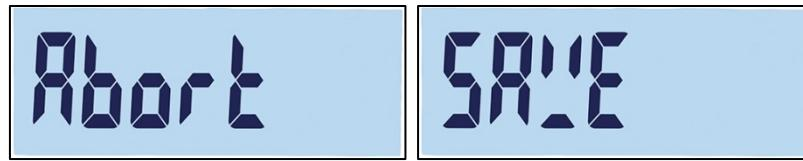

Figure 2-3: Prompts When Exiting Setup
1. Press the **Power** key, or left **F1** when in the root of the menu tree (F1, F2, etc. displayed). A message will appear asking whether to Abort or Save changes Figure 2-3.